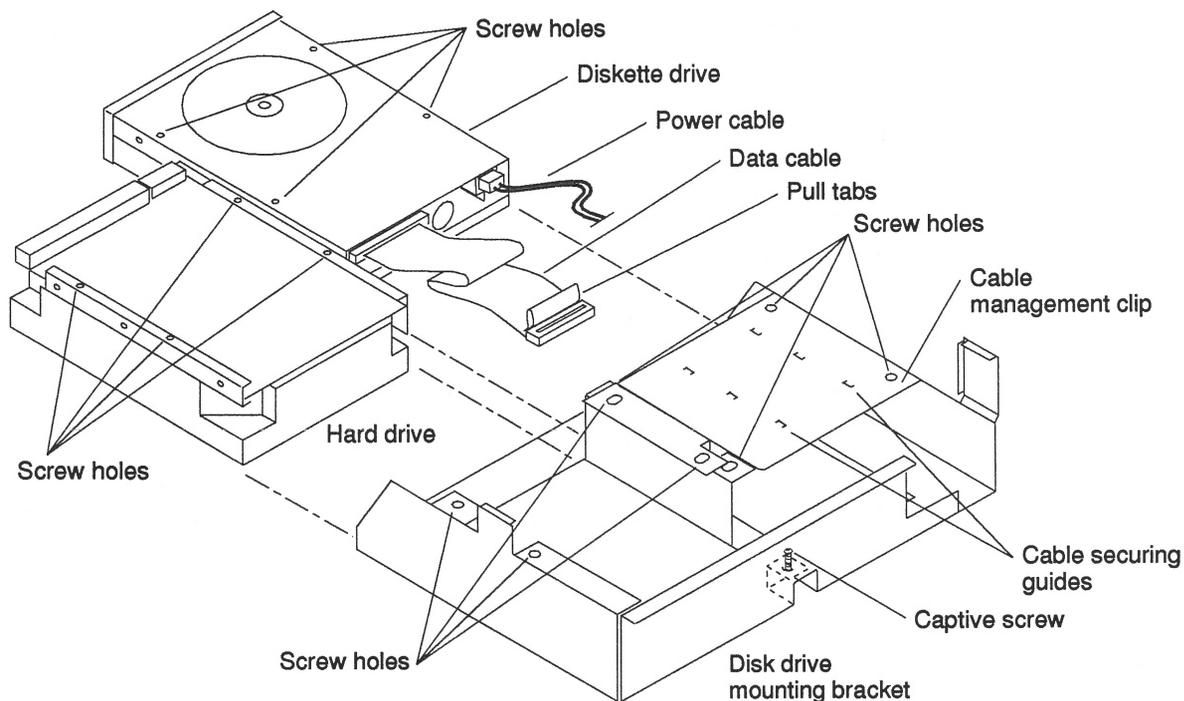

Figure 5-9 Disk Drive Mounting Bracket
The disk drive bracket resides in the top part of the system unit in front of the power supply (refer to Figure 5-9). It houses both the diskette drive supplied with the unit and an optional hard disk drive. You *must* remove the disk drive mounting bracket before removing either the diskette drive or hard drive.
4. Detach the cables from the cable securing guides on the cable management clip over the diskette drive. Refer to Figure 5-9.